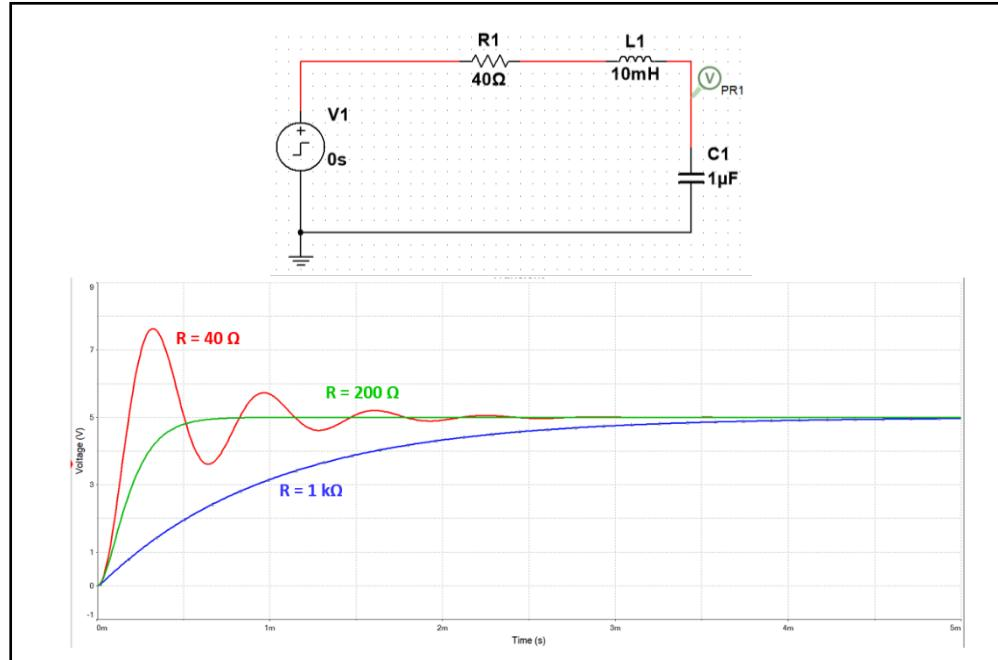

Fig 6.2: Series RLC Circuit Along with its Output Waveform For Different Damping Conditions
- Make the circuit connection as per the Fig. 6.2.